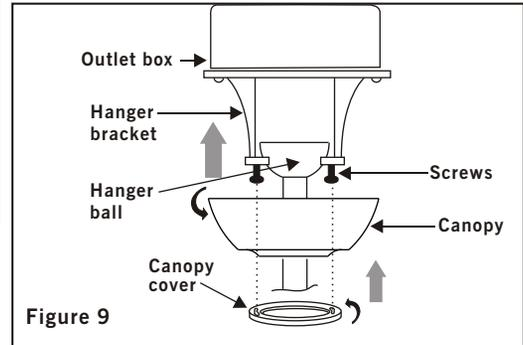

Figure 9
Step 2. Slide the canopy up to ceiling and over the 2 screws on the hanger bracket. Rotate canopy clockwise. Next, while holding the canopy with one hand, slide the canopy cover over the screws and rotate clockwise until tight. **Note:** adjust the canopy screws as necessary until the canopy and canopy cover are snug. (Fig. 9)